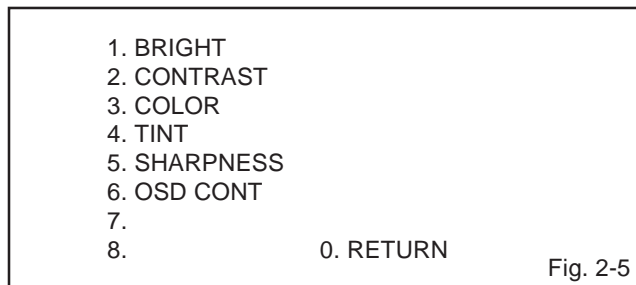

Fig. 2-5
3. Activate the adjustment mode display of **Fig. 1-1** and press the channel button **(4)** on the remote control. The **Fig. 2-5** appears on the display.
4. Activate the adjustment mode display of **Fig. 1-1** and press the channel button **(4)** on the remote control. The **Fig. 2-5** appears on the display.
1. Activate the adjustment mode display of **Fig. 1-1** and press the channel button **(4)** on the remote control. The **Fig. 2-5** appears on the display.
5. Activate the adjustment mode display of **Fig. 1-1** and press the channel button **(4)** on the remote control. The **Fig. 2-5** appears on the display.
2. Activate the adjustment mode display of **Fig. 1-1** and press the channel button **(4)** on the remote control. The **Fig. 2-5** appears on the display.